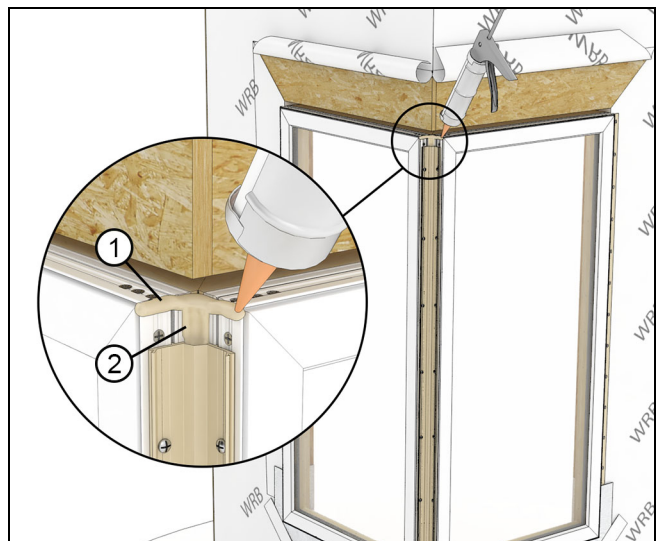

Figure 49
16. Apply a 1/4" bead of sealant to the frame head jamb and seal and tool the exposed wood area. See Figure 49.